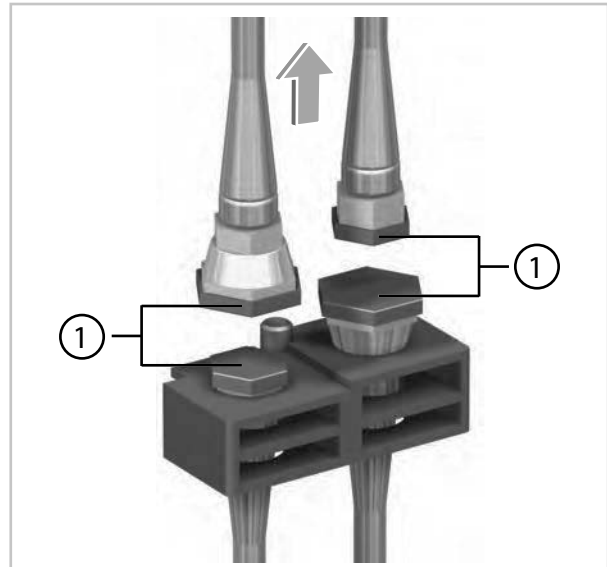

Fig. 16: Screw on protective caps
- 13.► Screw the protective caps provided onto the 4 coupling halves (Fig. 16).